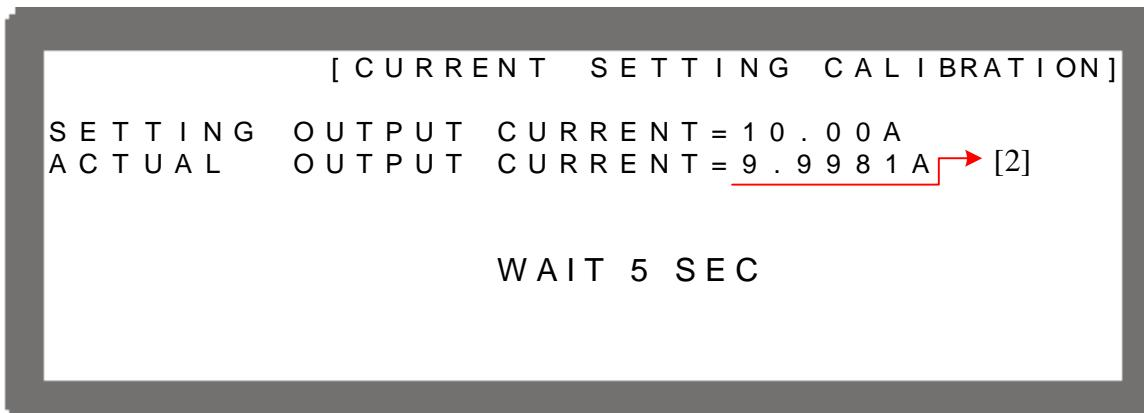

Figure 3-113
7. Press “” will perform 10A calibration. The system will set the output current to 10.00A automatically and appear second reading screen. Once the reading is done, the cursor will stop at position [2] as Figure 3-113 shows. Input the current (4 digits after decimal point) read by Current Shunt (DVM) and press “” to confirm. Use 2A and 10A for calibration, the system will calculate the calibration factor for the low current range.